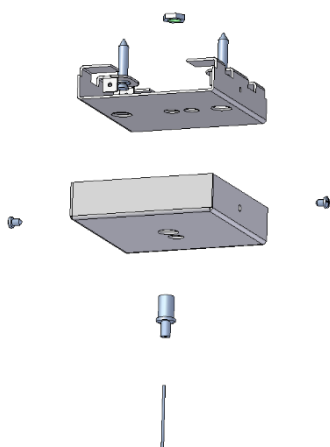

Fig. 5
1. Drill 4 holes for a plug of 5 on the ceiling according to the indications shown in Figure 5 according to the length of the ceiling light and the position of the suspensions on the ceiling light itself (more or less internal).
3. Fasten the wire retainer to the bracket using the nut, thread the steel wire through the cover first (Figures 5 and 6)
2. Make the electrical connections by opening the quick door (figure 5), to engage the cable in the terminal, press the lever on the terminal and insert the cable, then release the lever. If the transparent cable is supplied, pay attention to the green / transparent wire which is grounding.